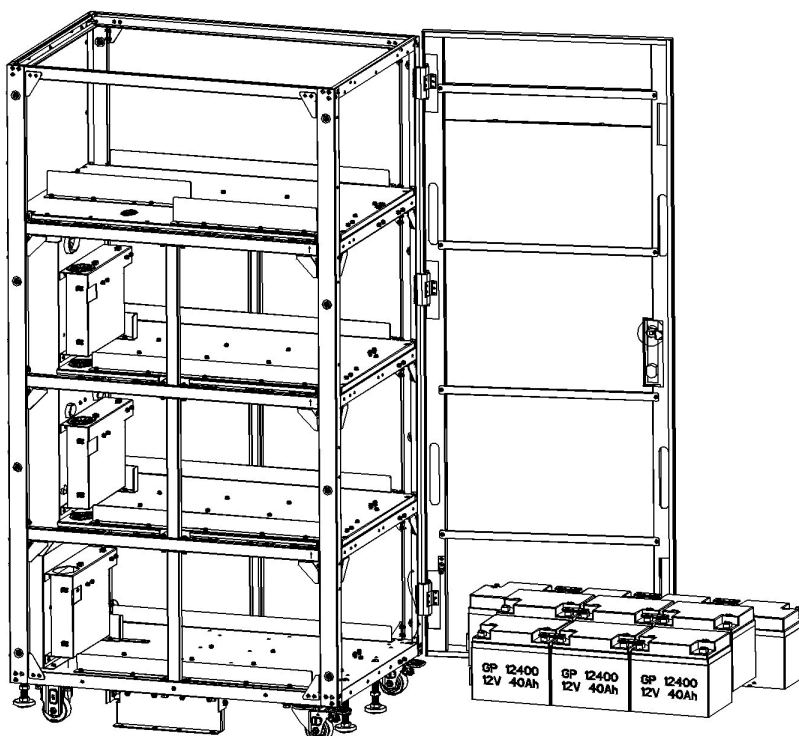

Figure 5-46
4. Install 10 battery packs in layer1. (Figure 5-46).